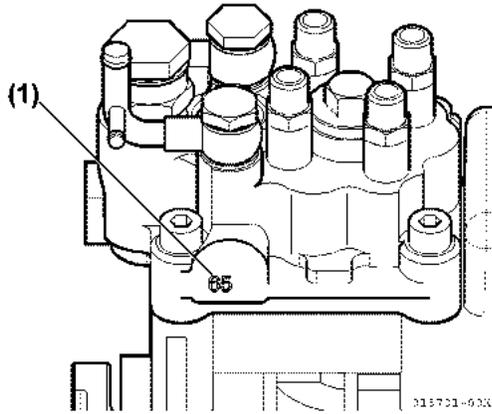

Figure 6-39
NOTICE: If installing a new or recalibrated fuel injection pump, record the timing index number located on the pump housing boss on the engine side of the new or recalibrated fuel injection pump (Figure 6-39, (1)). This number will be used to calculate and adjust the final fuel injection timing.